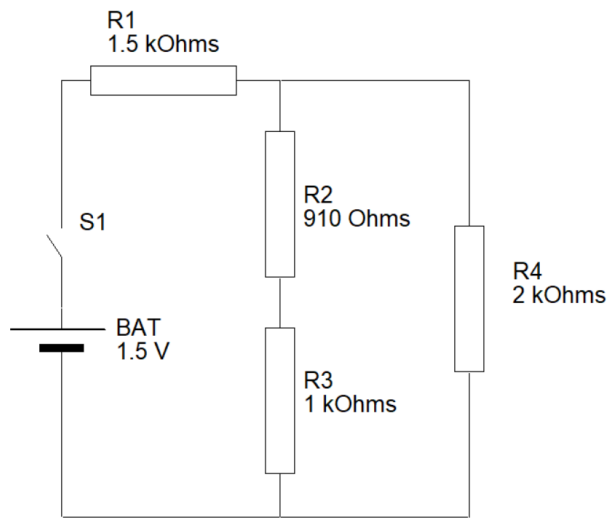

Figure 4: Circuit 3
c) Find the total resistance of the circuit shown in Figure 4 below. Show all your working.